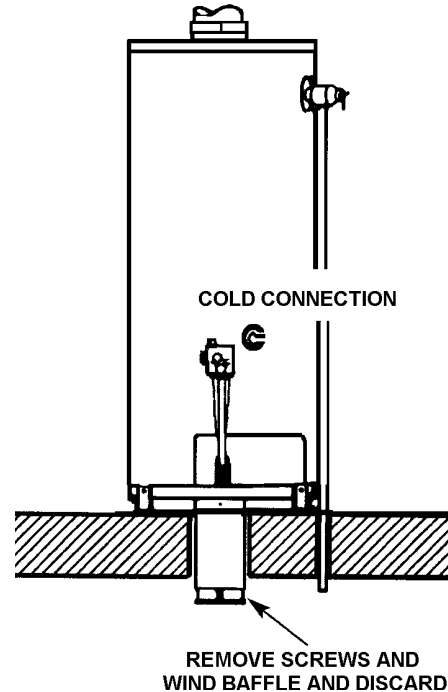

FIGURE 19.
3. Remove the screws which attach the wind baffle to the existing metal air intake vent pipe underneath the home. Discard the wind baffle and screws, see Figure 19.